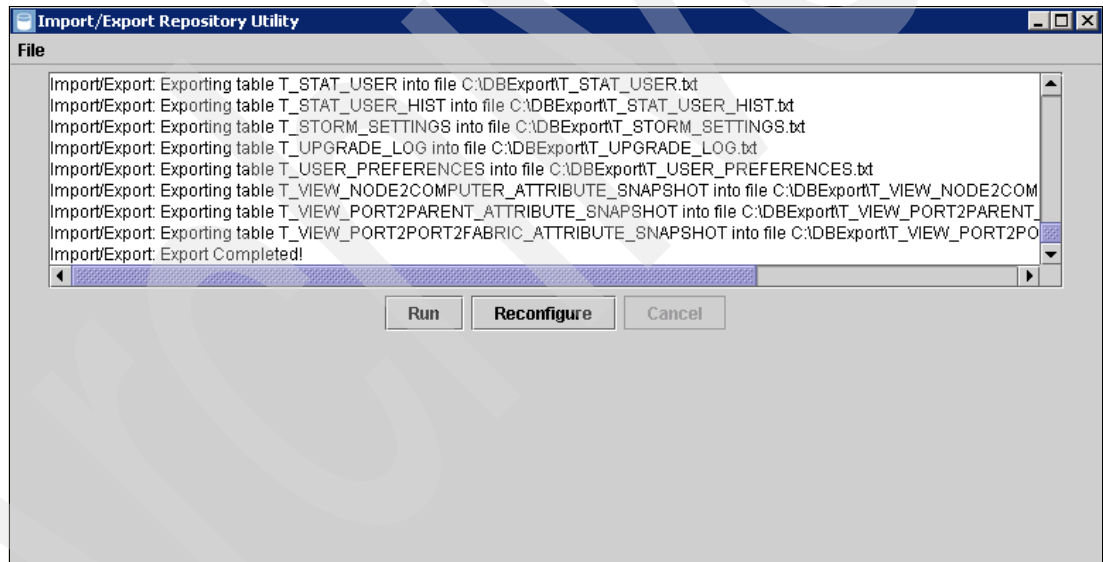

Figure 6-86 Display window message indicating that the export has completed
9. The display window displays a message when the export completes (see Figure 6-86).